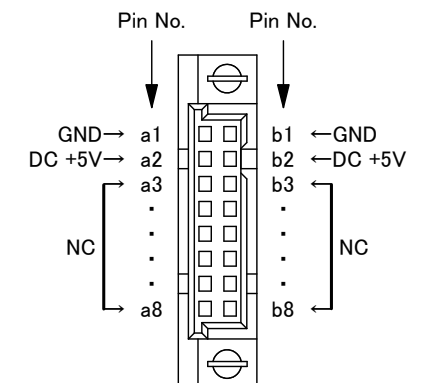

Fig.4 DIN connector pin assignment
- DIN connectors for supplying the power are located at the back of the plug-in module mounting slot. Its pins are assigned as shown in Fig.4, when viewed from the front.